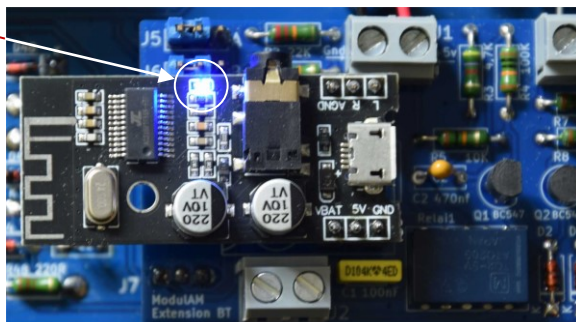

Figure VI-1: locating the blue LED indicator of the Bluetooth modem.
- Check that the blue LED indicator on the Bluetooth module flashes regularly (identification of this LED indicator in figure VI.1 below).